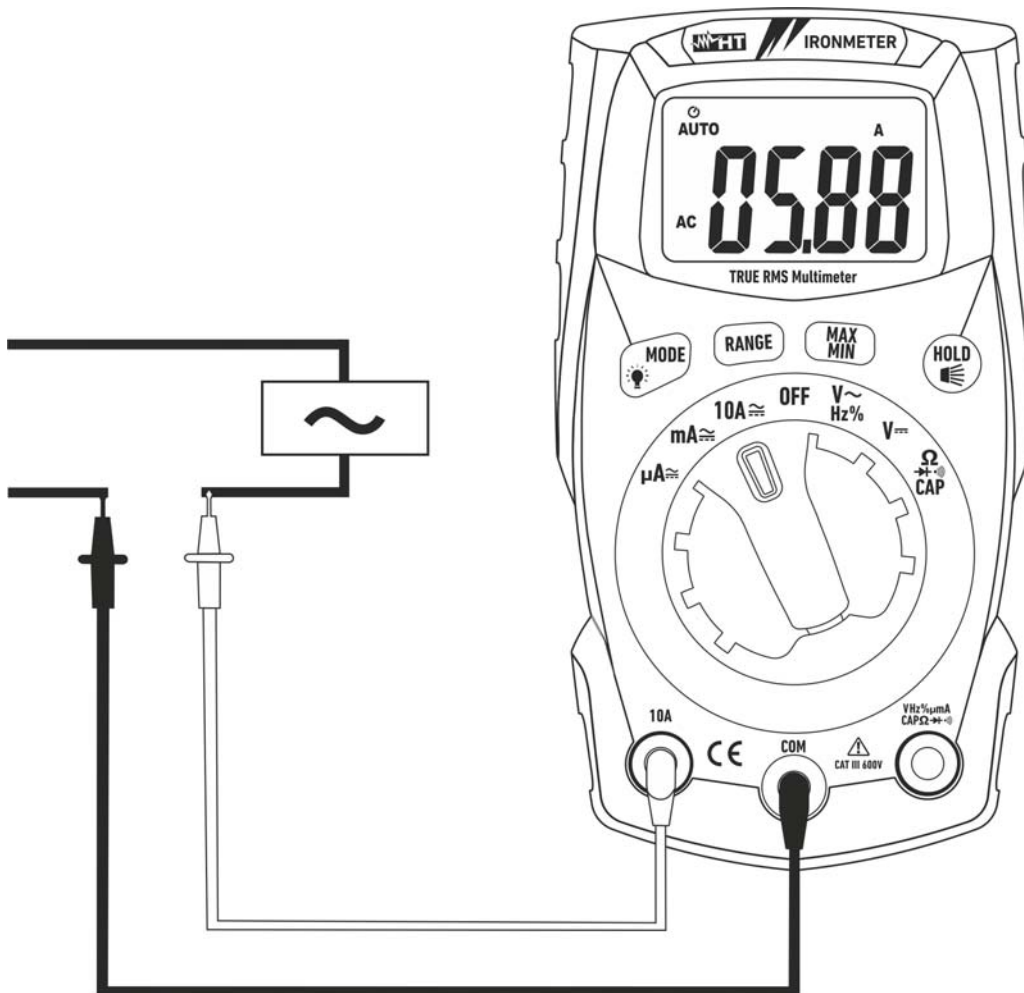

Fig. 9: Use of the instrument for AC current measurement
4. Connect the red lead and the black lead in series to the circuit whose current you want to measure, respecting polarity and current direction (see Fig. 9).